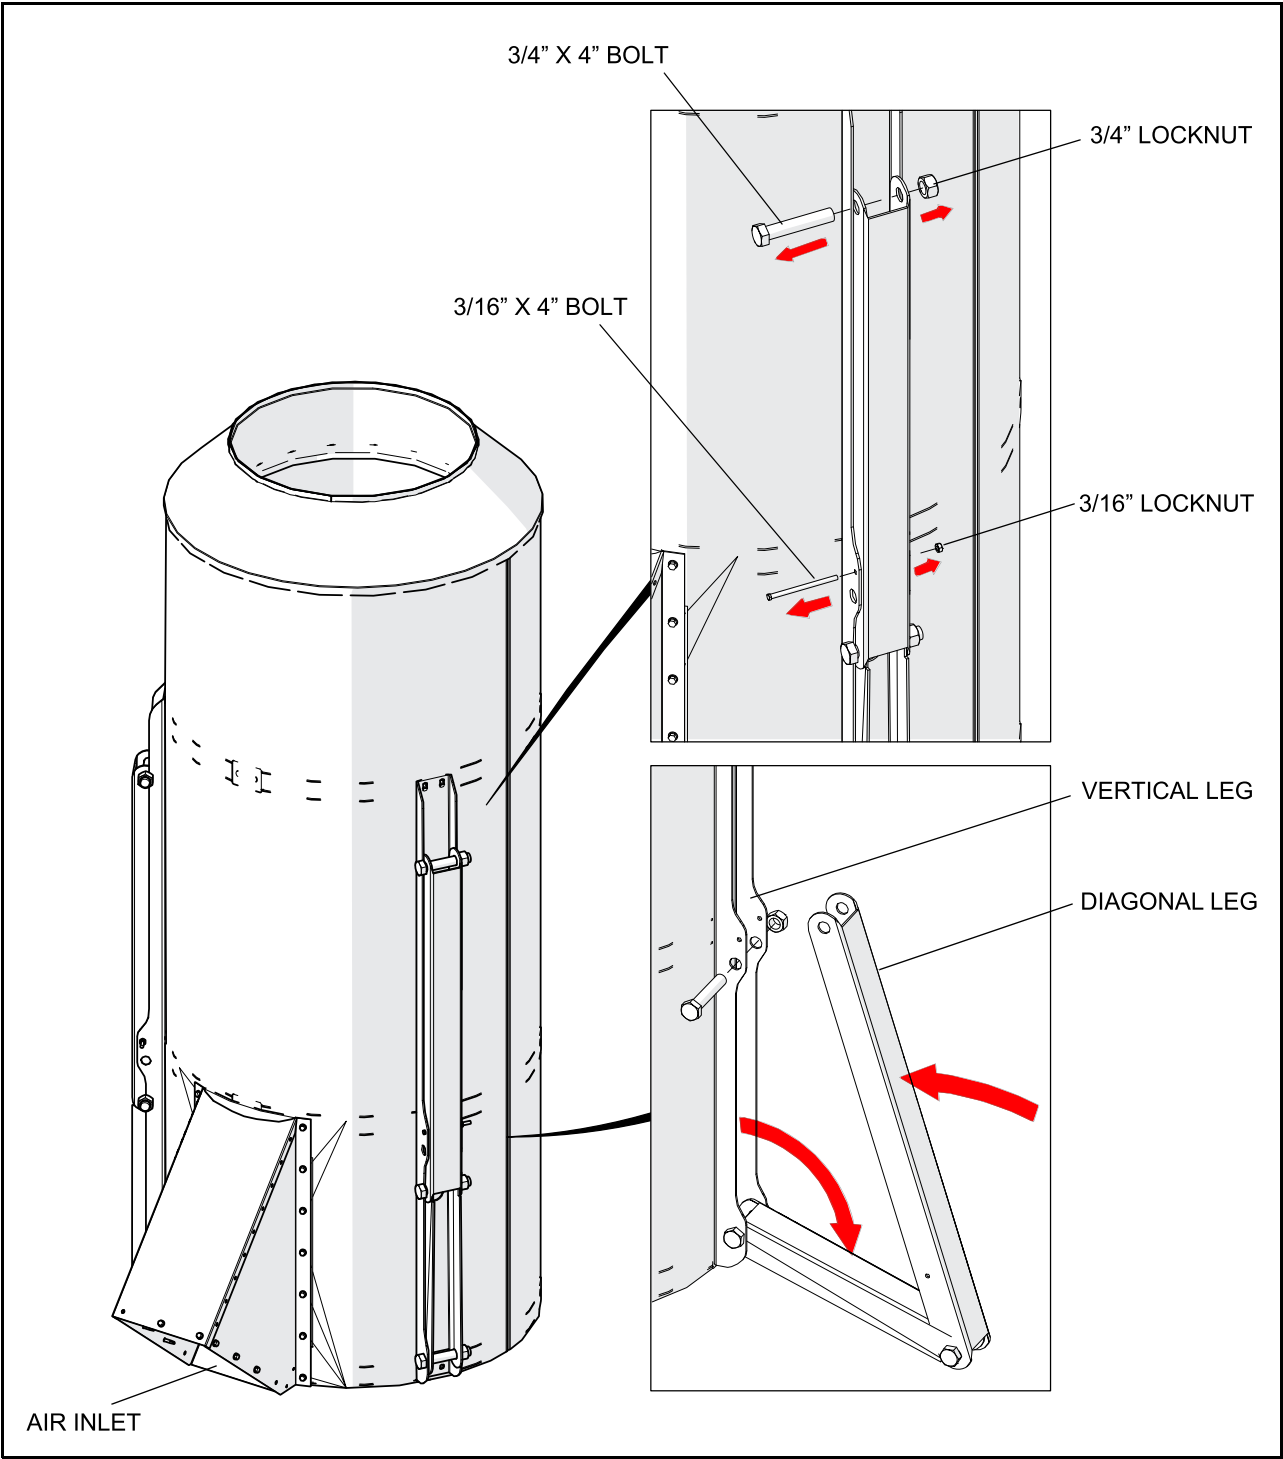

Figure 3.1
2. Unfold legs by removing the three 3/16 x 4" bolts and lowering legs to assembled position as shown in Figure 3.1.